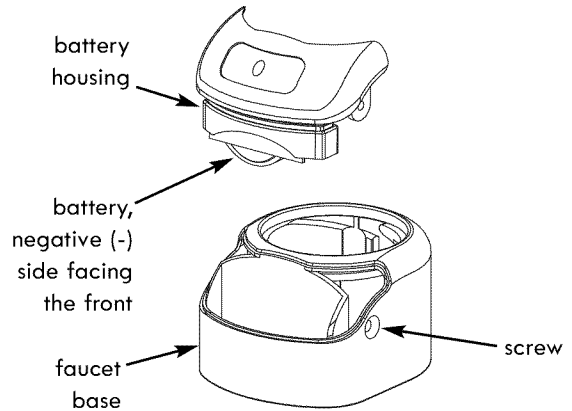

Figure 14
Inside the faucet base is a battery operated 6 month timer. See Figure 14.
See Figure 14.
2. Press the battery housing upwards from the front faucet base until it releases from the faucet base. See Figure 14.
5. Re-install the timer housing and firmly tighten the mounting screw. See Figure 14.